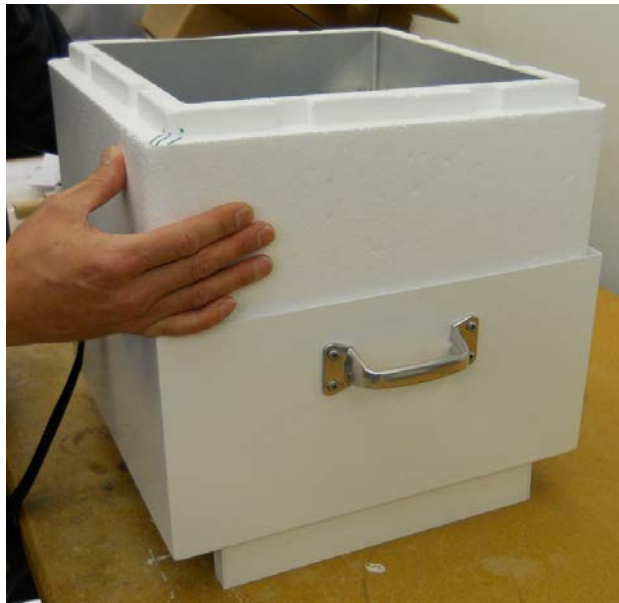

Figure 1. Lifting Styrofoam box from the target body
1. Remove the Styrofoam from the calibration target body (Figure 1).